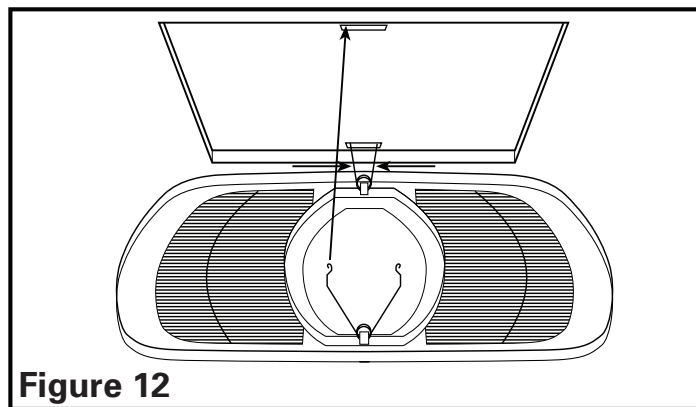

Figure 12
4. Install the grill by squeezing the two ends of the springs together and installing them up into the slots on the fan's housing. Push the grill up into position (**Figure 12**).